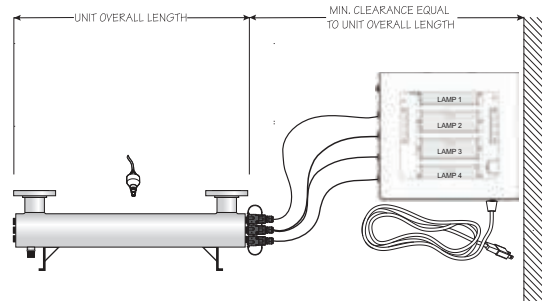

Figure 2 Disinfection System
1. Figure 2 shows the installation of a typical disinfection system and the related components that may be used for the installation. The use of a by-pass assembly is recommended in case the system requires “off-line” maintenance. In this case, note the system requires supplementary disinfection for the distribution system if any water is used during by-pass condition. In addition, during by-pass, the water will NOT be disinfected and a “DO NOT CONSUME THE WATER” tag should be physically installed on the by-pass assembly until such time as the system is sanitized and returned to service. For more information, refer to our disinfection procedure, Section 3.1. If the water is to be consumed while the system is off-line, the water must be boiled for two minutes prior to consumption.
2. Select a suitable location for the disinfection system and its related components. As it is recommended to install a GFCI, make sure that this is taken into consideration prior to any installation. The system must be installed horizontally, refer to Figure 2. When selecting a mounting location, you must leave enough space to allow for the removal of the UV lamps and/or quartz sleeves (typically leave a space equal to the size of the reactor chamber itself).